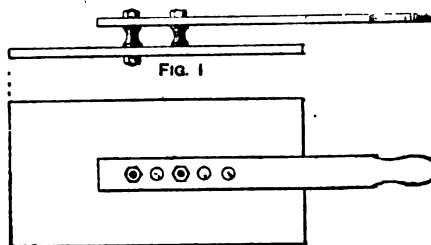

Fig. 2
**Portable Stand for Greengrocer.**—Fig. 1 gives a general view of a portable stand for the outside of a greengrocer's shop on which to place baskets, etc. The top should be formed of two, three, or more boards, as required, held together by ledges. Fig. 2 shows one of the three-legged trestles. A suitable section for the legs